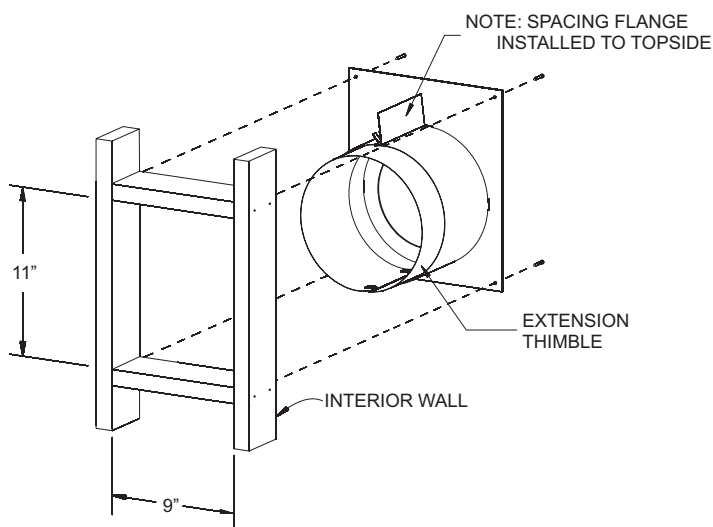

Figure 46
2. Cut hole in wall for wall thimble/firestop assembly (Figure 46) into your combustible wall. Note: On brick or block exterior wall a 7" (178 mm) diameter hole needs to be cut.
Measure the total wall thickness to determine whether or not the extension thimble is to be used. If the combustible wall depth is over 5 3/8" (137 mm), then the extension thimble should be used (Figure 46).
3. Install the wall thimble assembly through the framed opening so the firestop plate is on the interior wall (Figure 46). Telescope section should extend all the way through the exterior wall. Attach with (4) 10 x 1" screws.